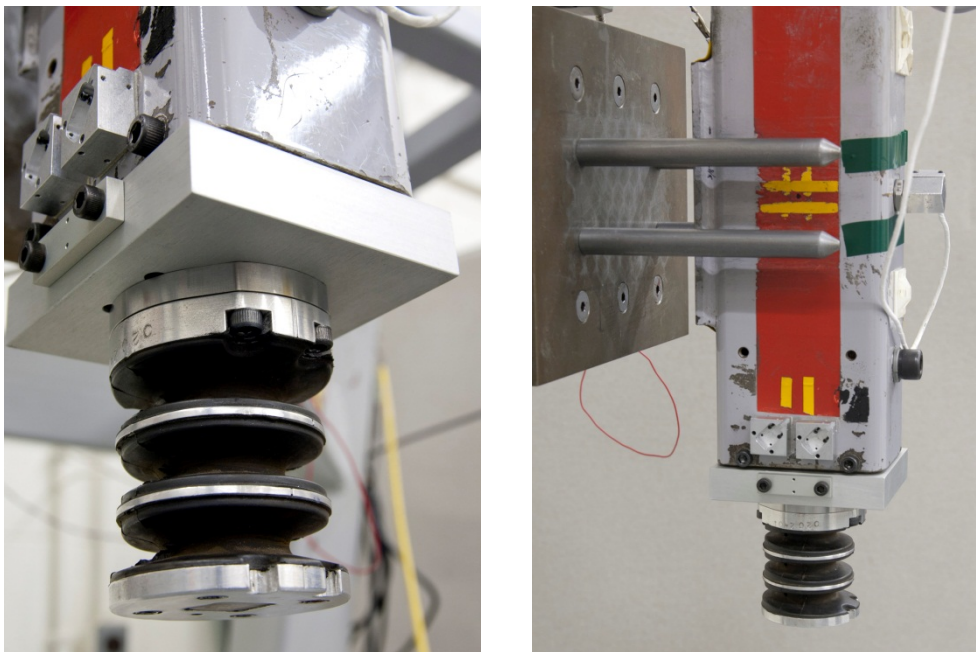

Figure 20. Mount neck to pendulum for fore-aft flexion tests
- Mount the neck to the pendulum. First install the two M5 x 20 SHCS on the front side of the neck (note that the front of the neck has “slits” in the rubber segments). Then install the two M5 x 20 SHCS to the rear of the neck (Figure 20).